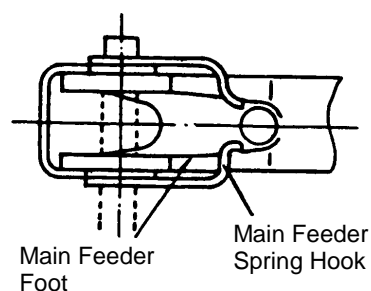

Fig. 24 Installing Main feeder spring
At this time, ensure that the Main Feeder Spring (30) spring hook section securely catches on the foot of the Main Feeder (34), as illustrated in Fig. 24.